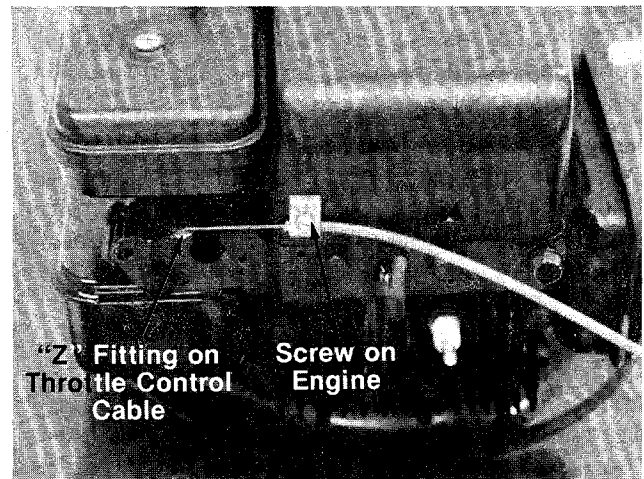

FIGURE 24.
6. Disconnect the throttle control cable from the engine by loosening screw on engine and disconnecting the "Z" fitting. See figure 24.